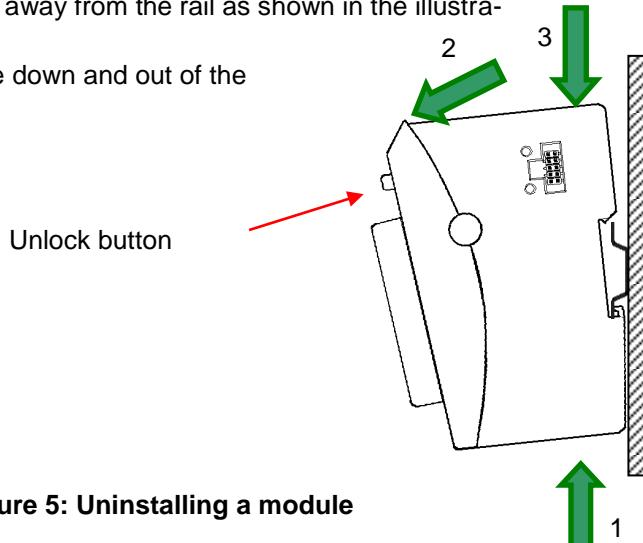

Figure 5: Uninstalling a module
- Push down the unlock button (see Figure 5) of the module that you wish to disconnect from the module to the left of it.